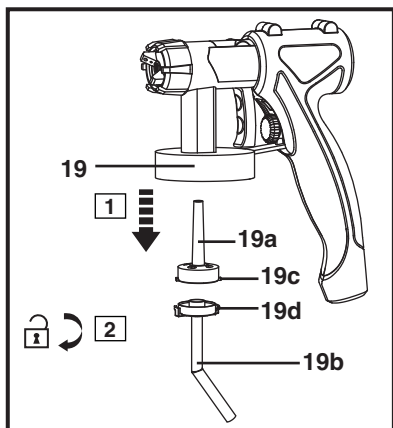

Fig. 13
- > Remove the attached pipes (19a, 19b) from the lid (19) and disassemble the lower suction pipe (19b) from the upper suction pipe (19a) by releasing the locking pins (19c) from the grooves (19d) (Fig. 13).